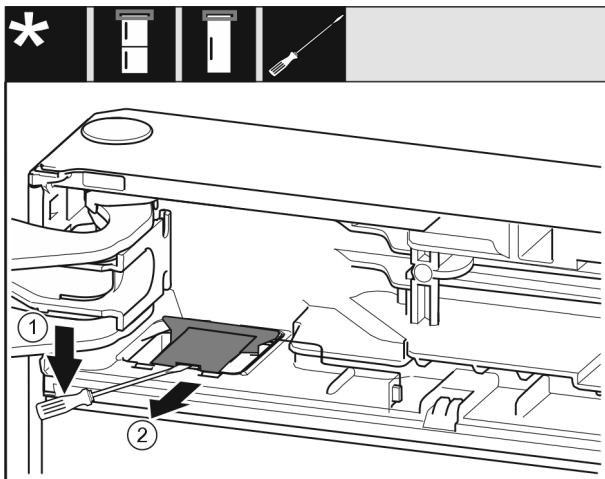

Fig. 9
- ▶ Use a screwdriver to snap out the cover Fig. 9 (1).
- ▶ Pull out the cover Fig. 9 (2).